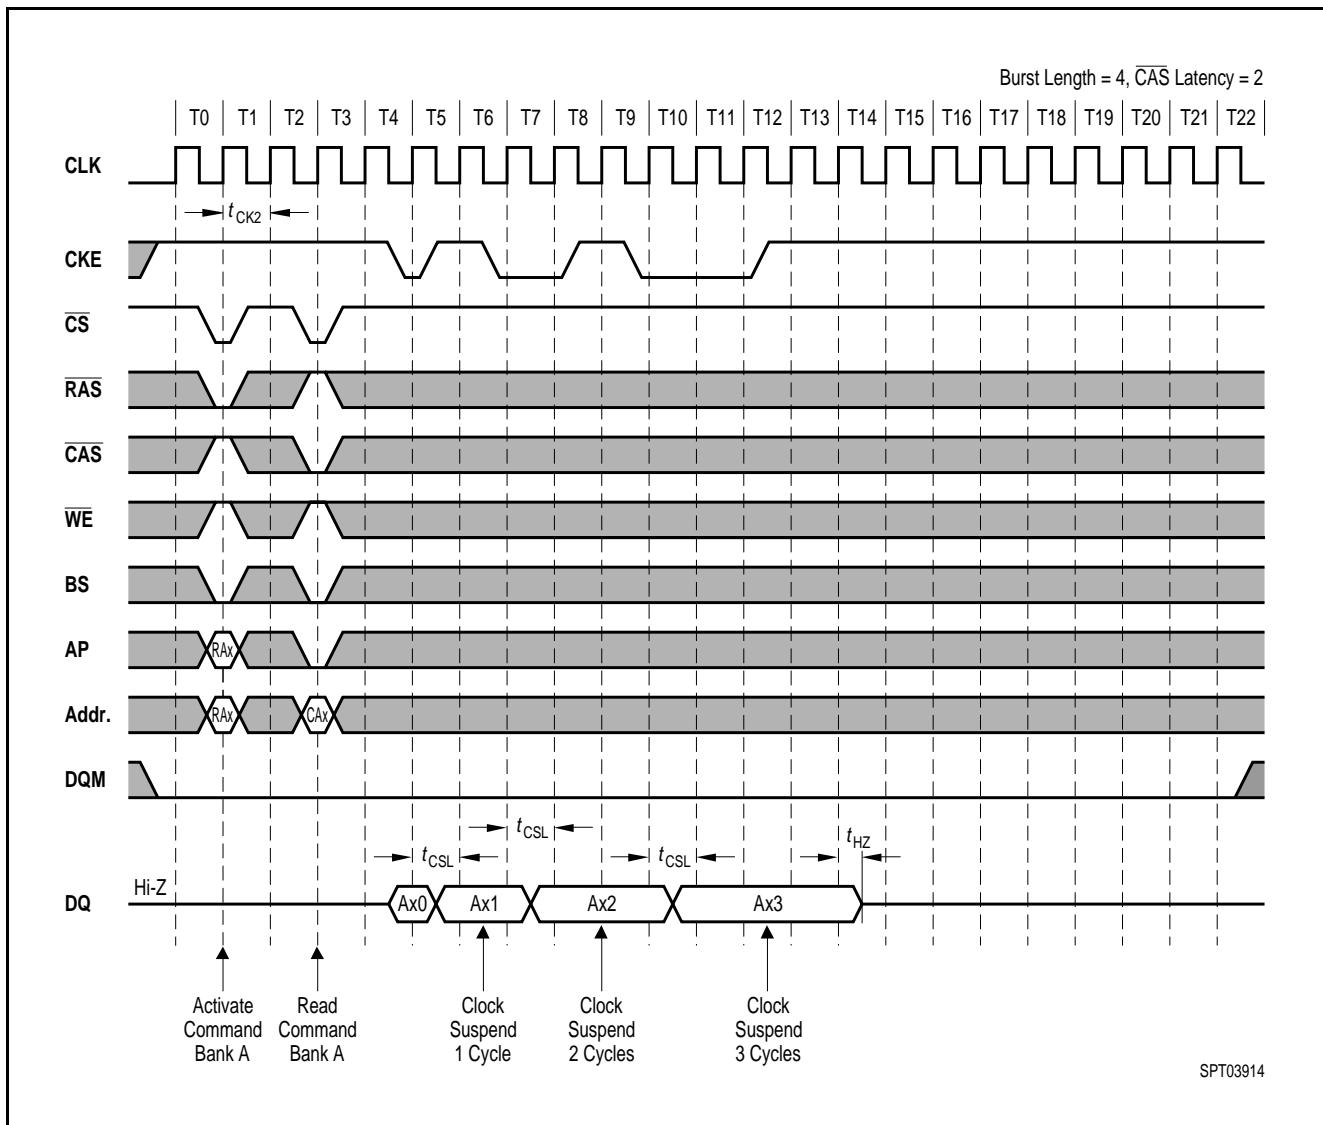

Figure 20 Clock Suspension During Burst Read CAS Latency = 2
- Figure 20 Clock Suspension During Burst Read CAS Latency = 2